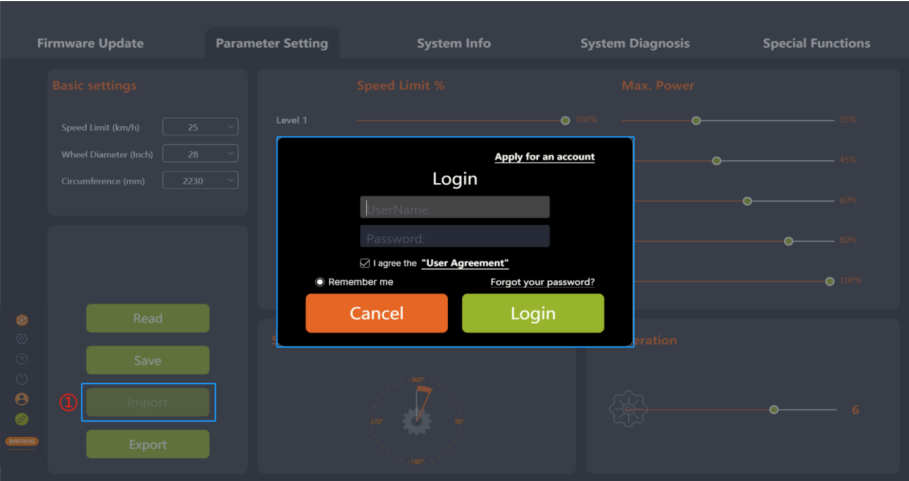

Fig 5-7 Import
1. If you want to import the previously generated parameter configuration file (XML format) to the controller, click "Import". If you are not logged in, the "Login" interface will pop up, prompting you to log in (Figure 5-7).